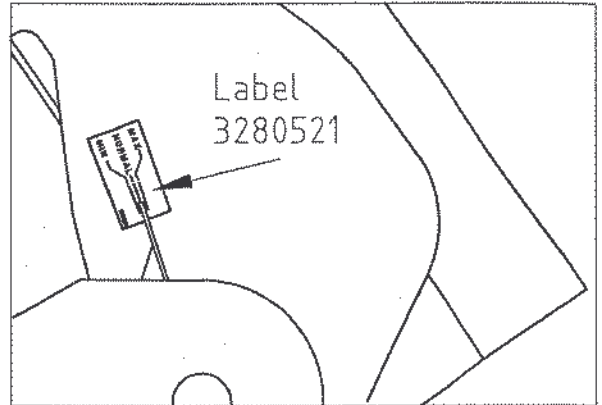

Figure 15.-3, point B
1. Attach label 3280521 so that the indicator is on the NORMAL mark of the label, refer to figure 15.-3 point B. Attach the label on the lifting boom.